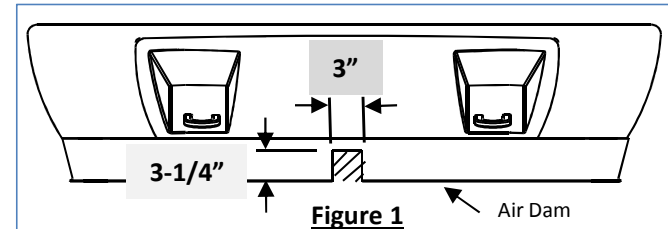

Figure 1
- Trim Air Dam** - Mark a 3" wide x 3-1/4" tall area in the center of lower air dam. See figure 1. Using a utility knife, carefully trim the air dam.
- Loosen Splash Guard** - Remove the (2) rearmost M10 bolts from plastic splash guard. Do not remove the (2) forward bolts.